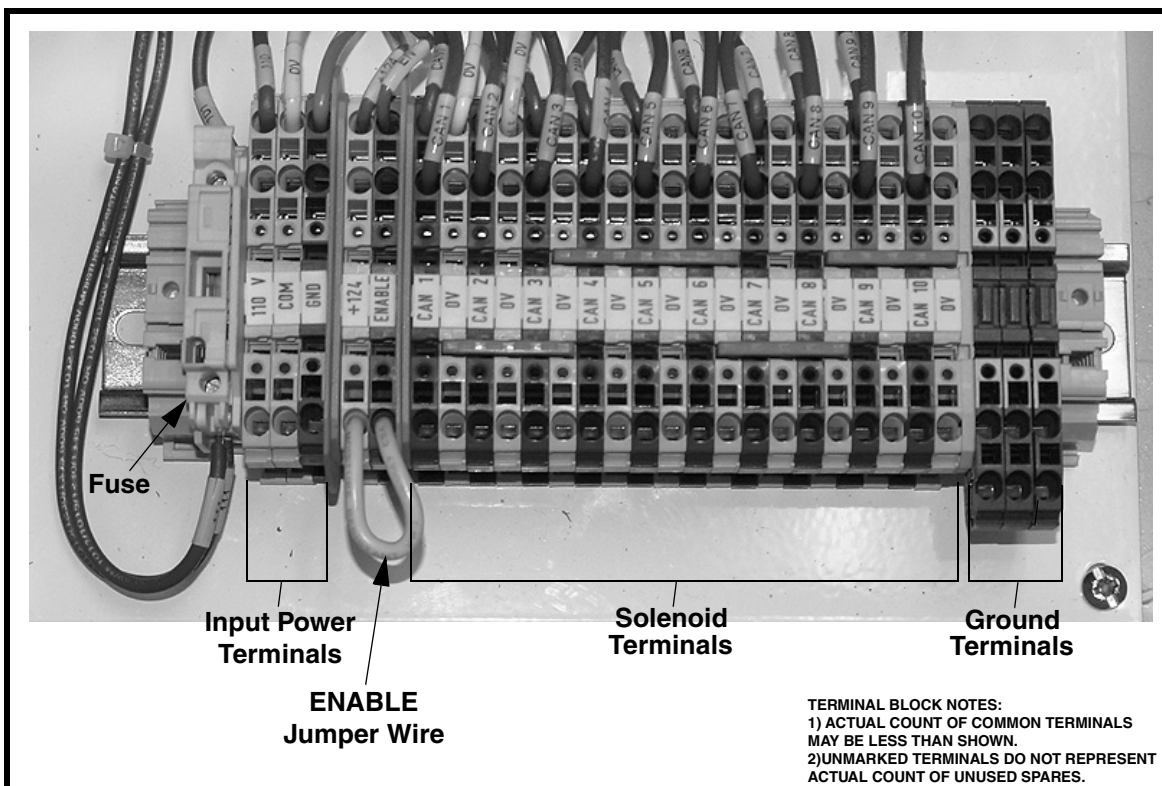

Figure 2. Terminal Block Layout
1. Connect wires from sonic horn solenoids to terminal strip outputs 1 through 10 and N terminals (see Figure 2). Connect number 1 solenoid to 1 supply and N, number 2 solenoid to 2 supply and N, etc. Continue until all solenoids are connected.